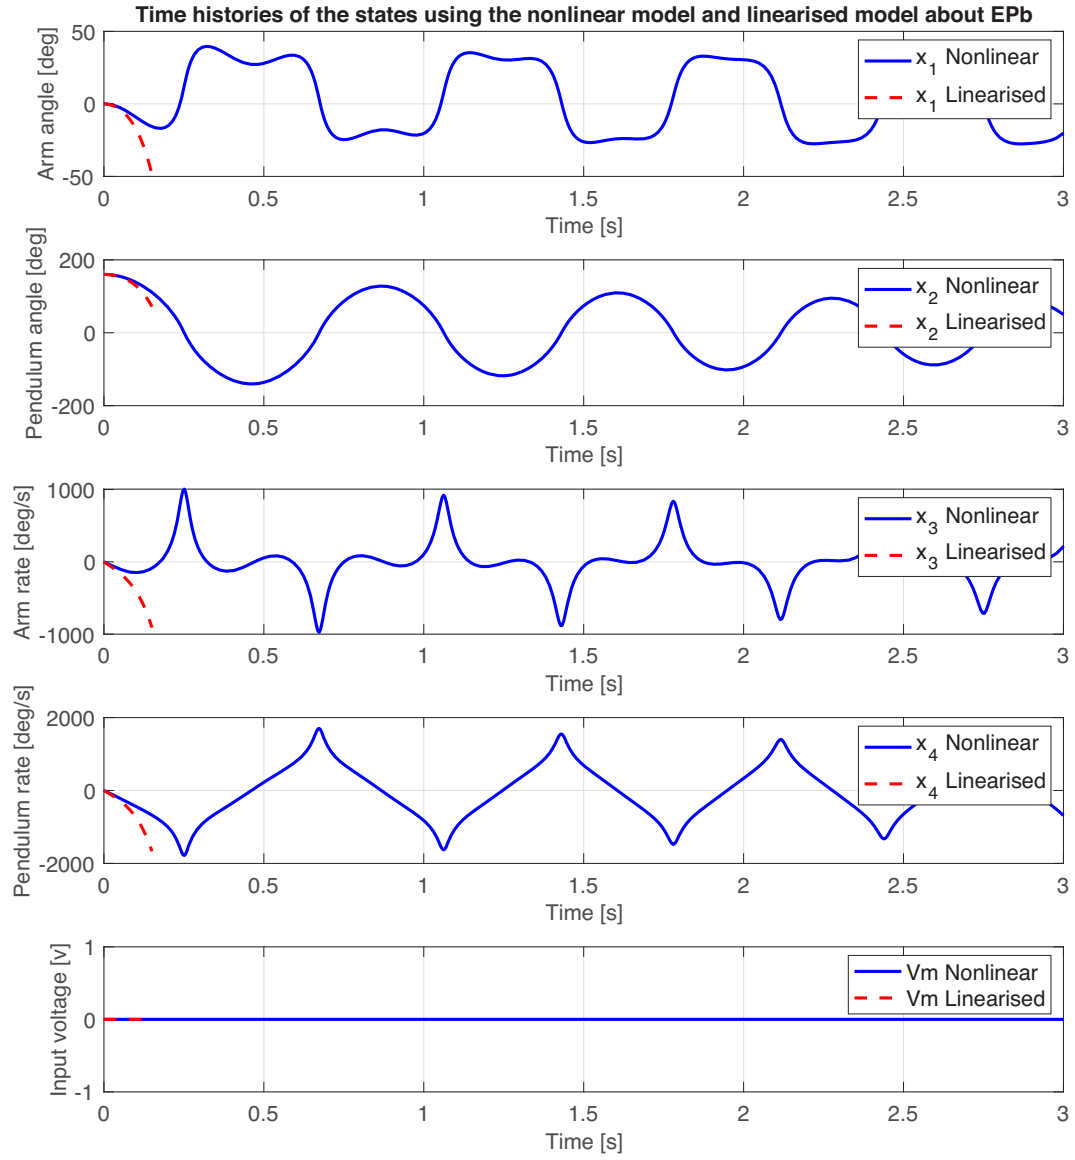

Figure 4: Time histories of the states and input voltage.
5. Repeat this process for initial conditions about the equilibrium point \bar{x}_b . Save your script as `rp_mainfile_modelling_comparison.b.m`. Sample results for the initial conditions $x_1(0) = 0$ deg, $x_2(0) = 160$ deg, $x_3(0) = 0$ deg/s and $x_4(0) = 0$ deg/s, $V_m = 0$ v are shown in Figure 4.